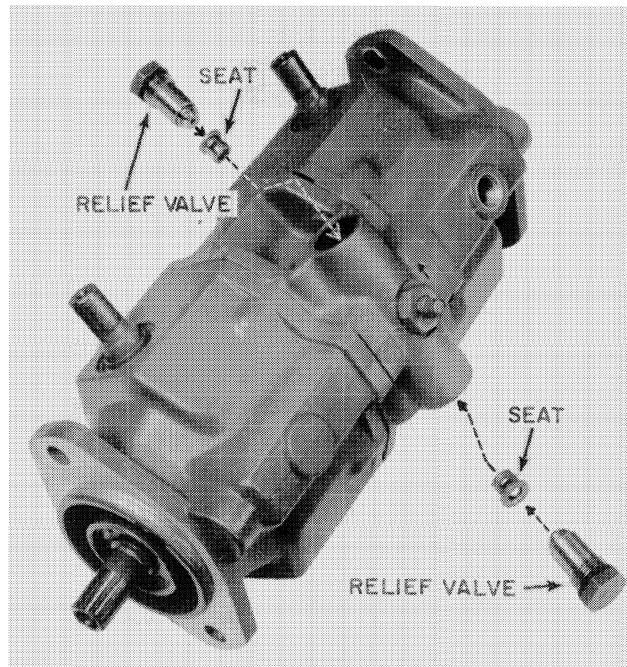

FIGURE 19
- ATTENTION:** Cessna transmission relief valves are sold and must only be serviced as a matched set of valve and seat. If a valve is removed, the seat must be removed and kept with the valve. When installing a new relief valve, install the new seat with it. See Figure 19.